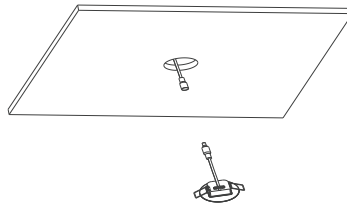

Figure 3-2
2. Create a hole in the ceiling with a diameter between 2" and 2 3/8", then route the indicator cord to the inverter within the junction box (not included) and reconnect the quick connector (refer to Figure 3-2).